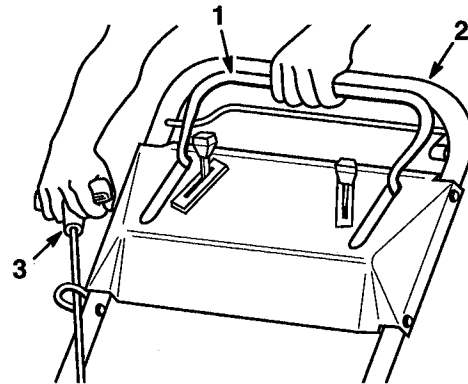

Figure 14
4. Hold blade control bail against upper handle (Fig. 14).
5. Pull starter handle (Fig. 14) lightly until resistance is felt, then pull sharply. Let rope return to handle slowly.